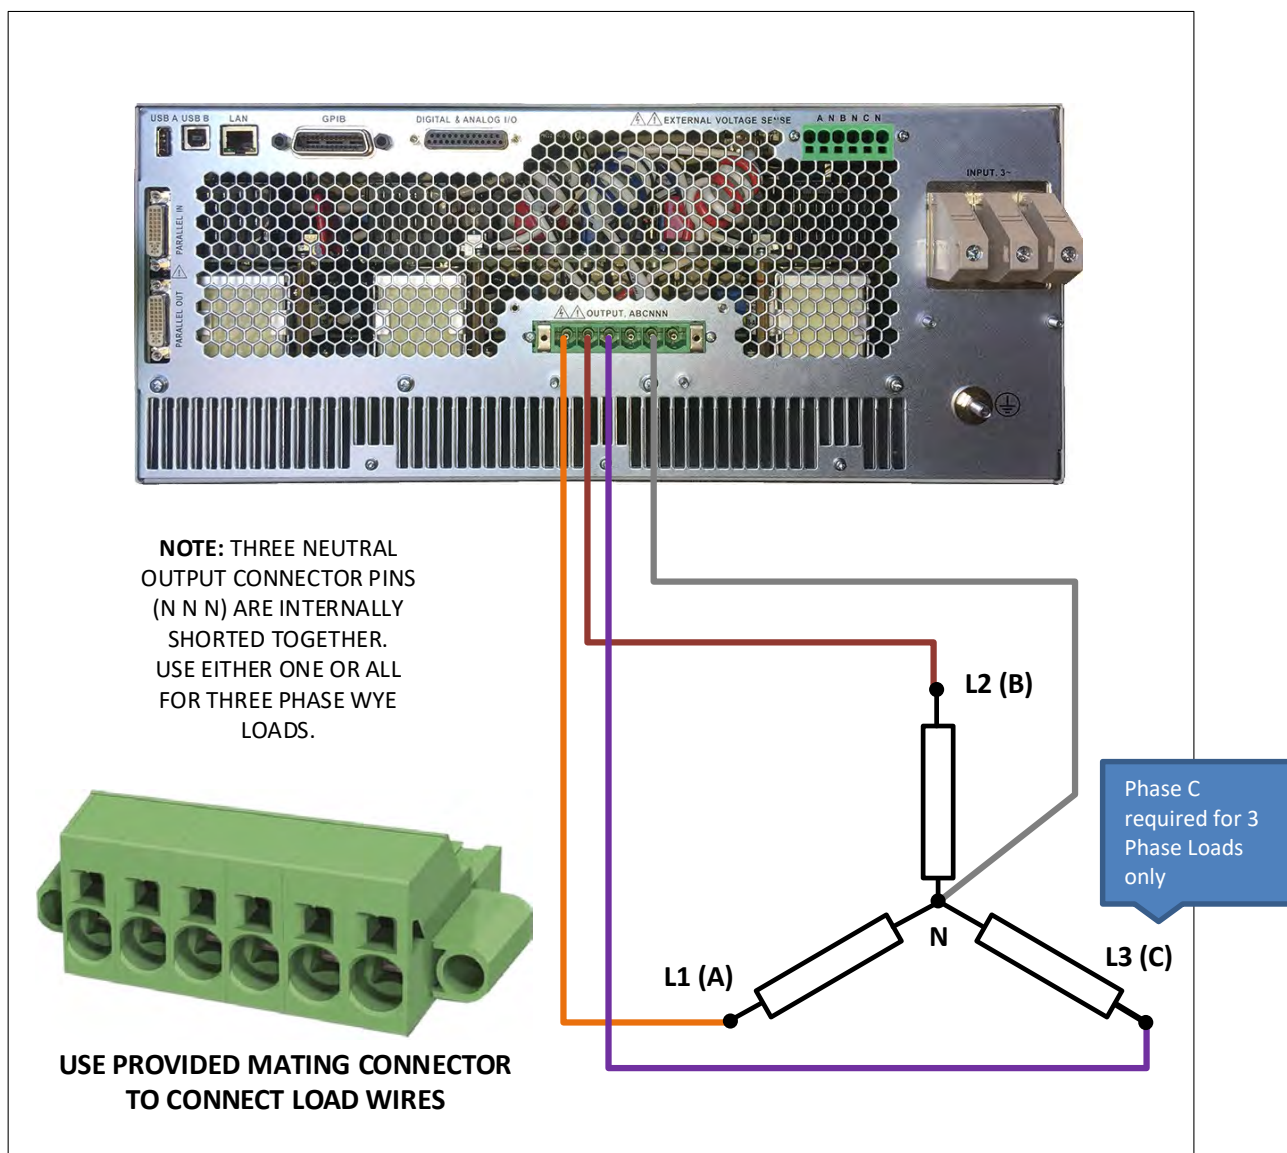
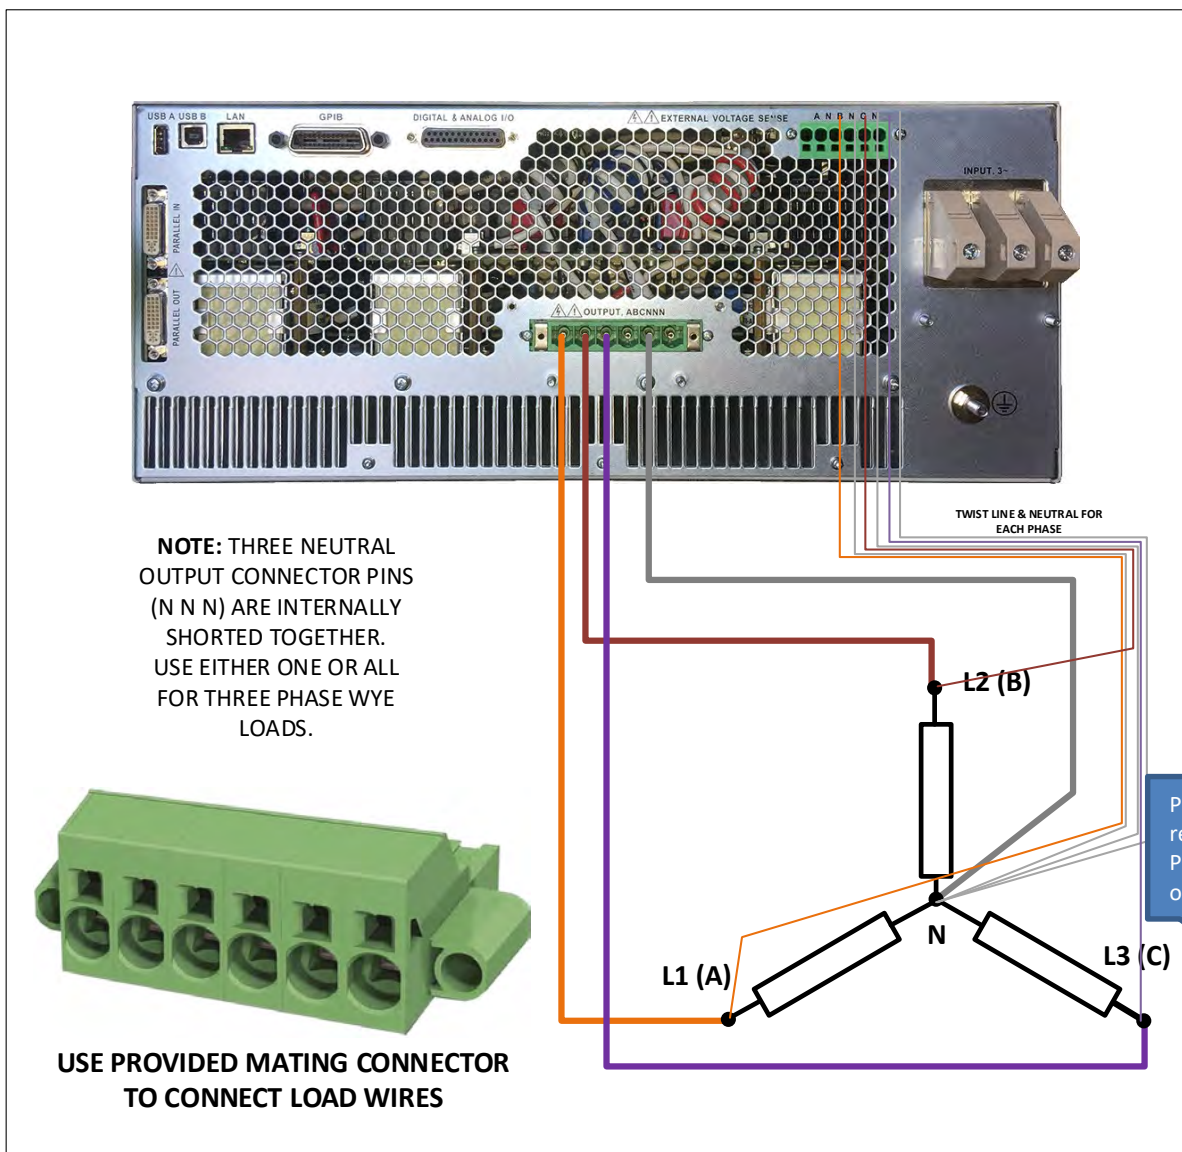

Figure 5-10: Three phase Wye or Split phase Load Output Connections – Internal Voltage Sense
Figure 5-11: Three phase Wye or Split phase Load Output Connections – External Voltage Sense
The requisite WYE load output wiring is shown in Figure 5-10 using internal voltage sense and Figure 5-11 when using external voltage sense.
**Note:** For three-phase sense connection wiring (model 3150ADF), refer to Figure 5-11 for 3 phase WYE load connections and Figure 5-13 for three phase DELTA load connections.